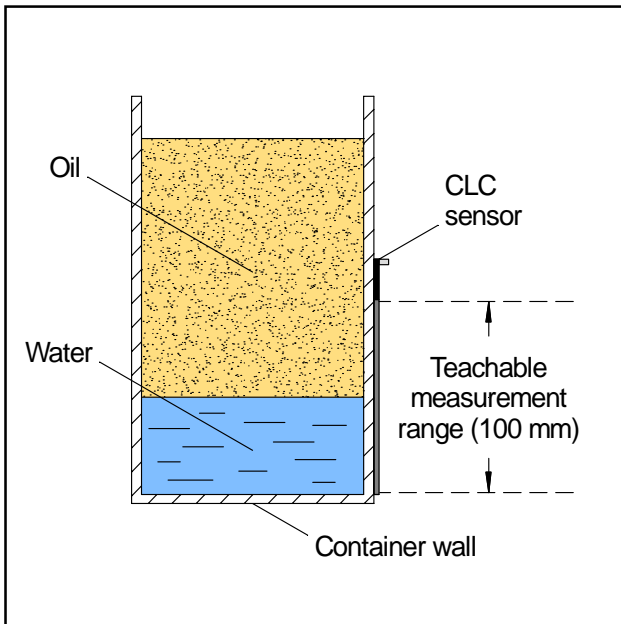

Fig. 2: Setup of continuous oil over water detection
1. Attach the CLC sensor to the tank so that the tip of the sensor pad reaches the bottom of the container (see teachable measurement range in Fig. 2).